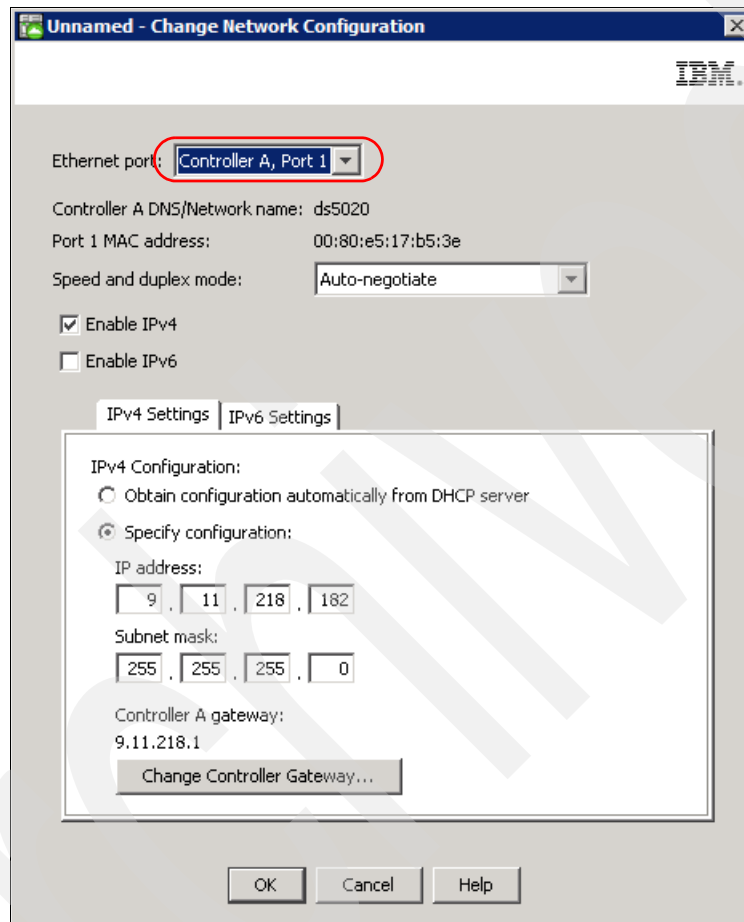

Figure 4-29 DS5000 Controller Network Configuration change
- g. Input the network information and click **OK**, as shown in Figure 4-29. You can configure both controllers from this window by selecting the Ethernet port. Make sure to click **OK** after configuring both of them.